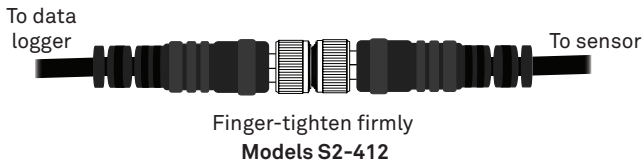

Figure 3 Attach M8 connector
2. Tighten the cable screw until hand-tight (Figure 3).